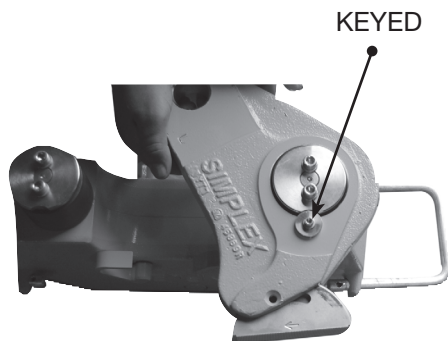

FIGURE 3
1. Install the swing arm as illustrated in **FIGURES 3&4**. Note that the swing arm is keyed and grip arrow direction must point inward on both bracket assemblies.